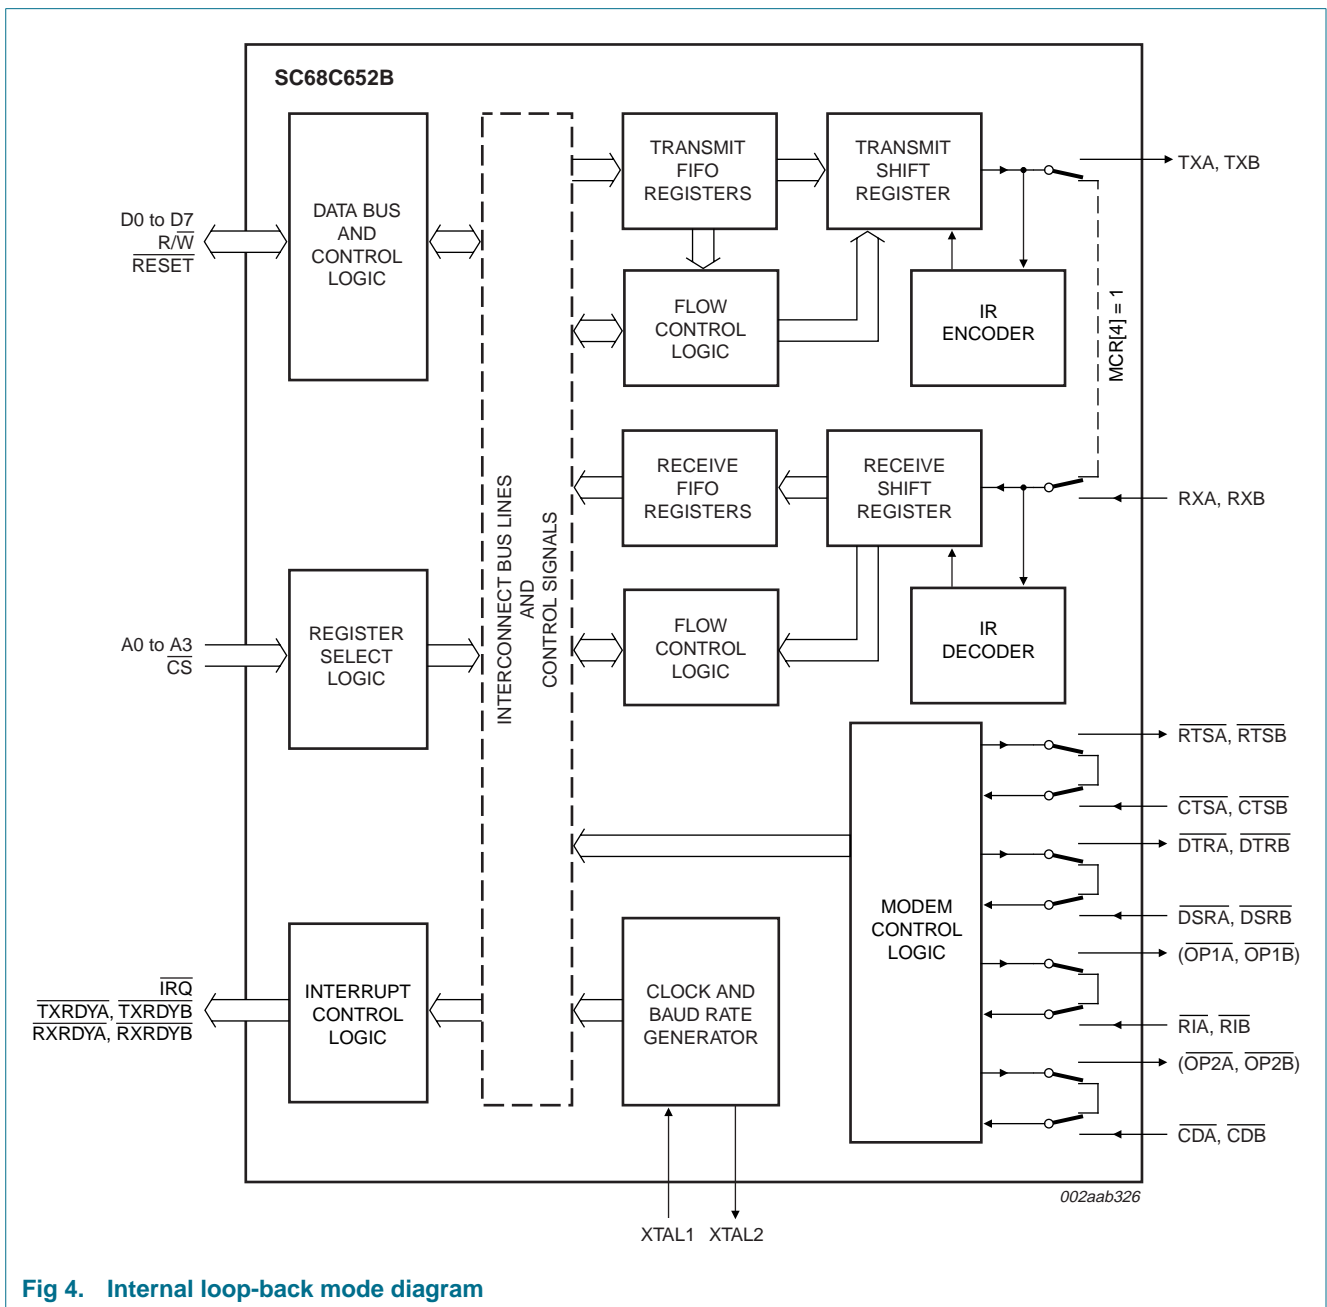

Fig 4. Internal loop-back mode diagram
The internal loop-back capability allows on-board diagnostics. In the loop-back mode, the normal modem interface pins are disconnected and reconfigured for loop-back internally (see Figure 4). MCR[0:3] register bits are used for controlling loop-back diagnostic testing. In the loop-back mode, the transmitter output (TX) and the receiver input (RX) are disconnected from their associated interface pins, and instead are connected together internally. The  $\overline{\text{CTS}}$ ,  $\overline{\text{DSR}}$ ,  $\overline{\text{CD}}$ , and  $\overline{\text{RI}}$  are disconnected from their normal modem control inputs pins, and instead are connected internally to  $\overline{\text{RTS}}$ ,  $\overline{\text{DTR}}$ , MCR[3] (OP2) and